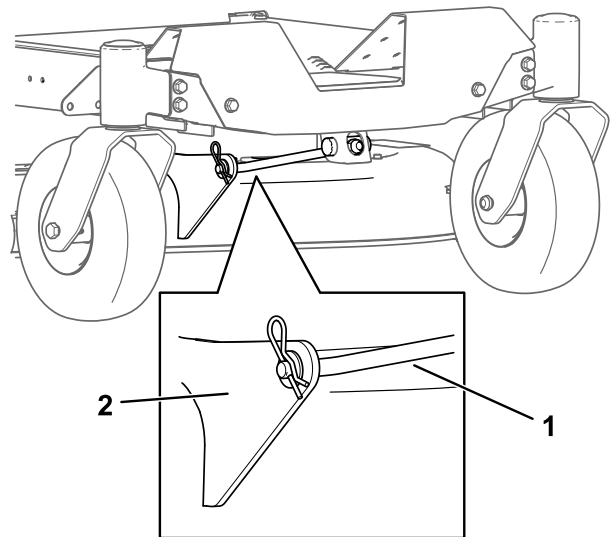

Figure 72
5. Remove the hairpin cotter from the front support rod, and remove the rod from the deck bracket (Figure 72).
8. Attach the front support rod to the mower deck with the clevis pin and hairpin cotter (Figure 72).